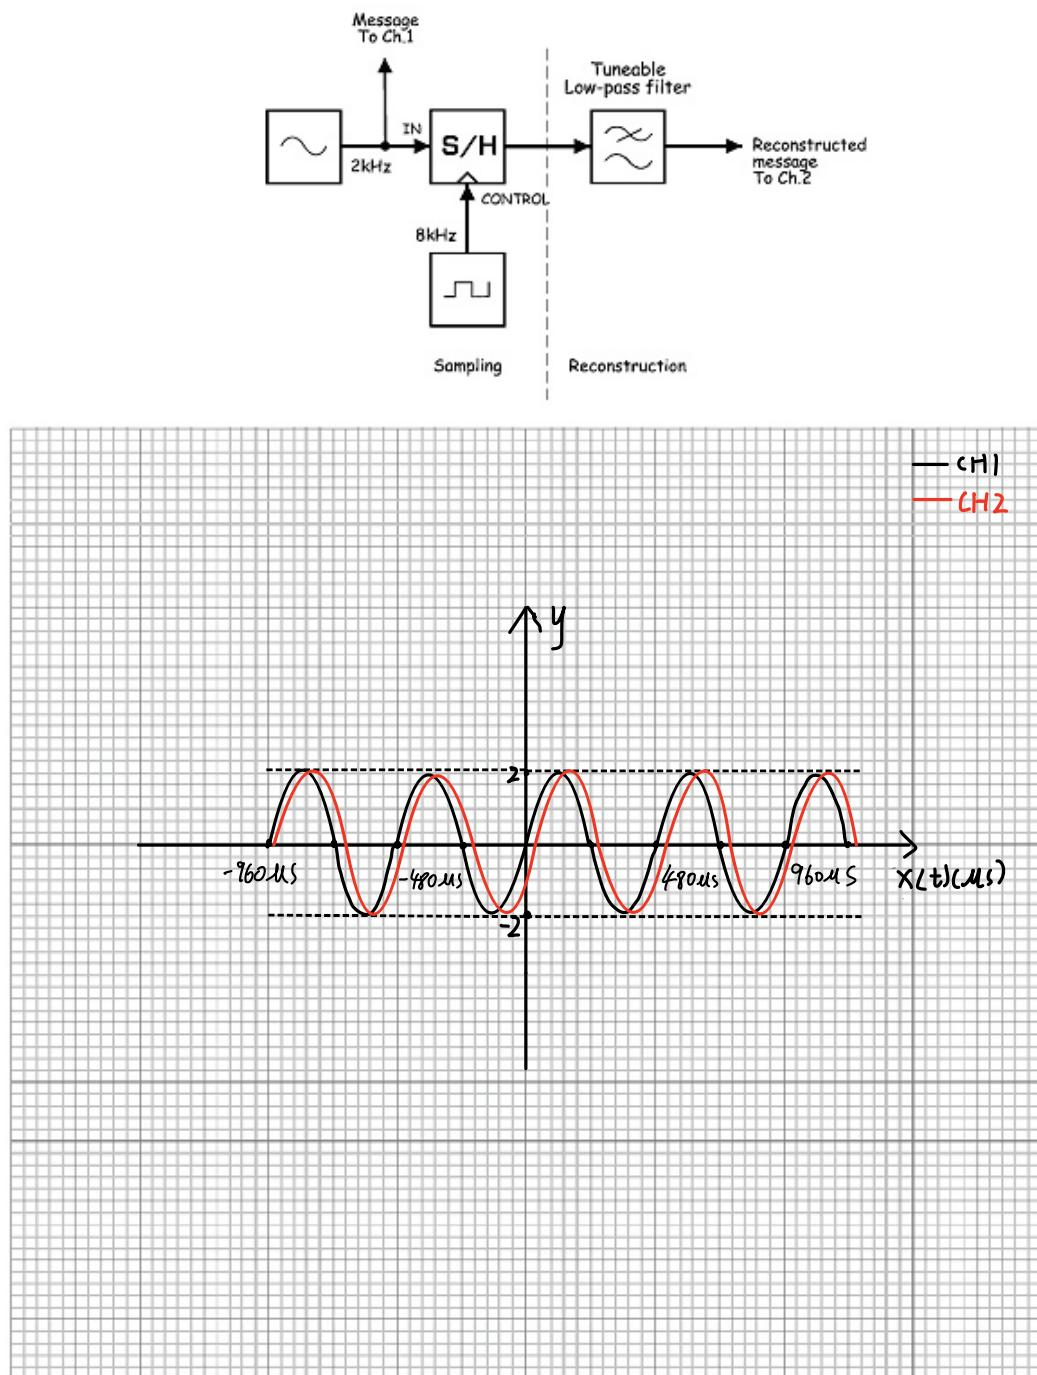
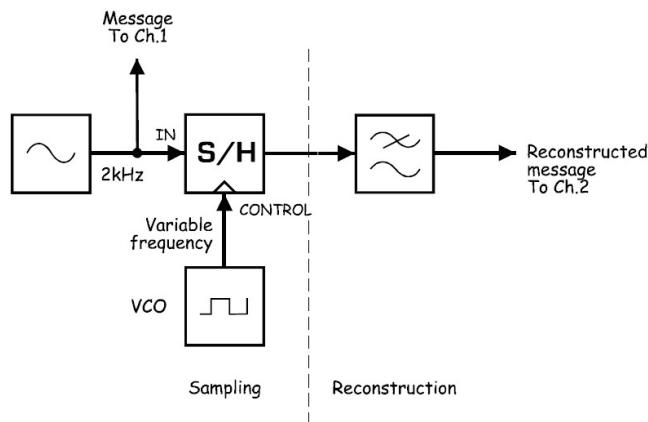

Figure 12: Reconstruction system.
Figure 13: Reconstruction system-Aliasing.
- Locate the low-pass filter and modify the setup as shown in Figure 12 below.
- Draw in the space provided in Figure 12 the signal from Ch-1 and Ch-2 overlapped and to the same scale with different colours. [2 marks]
- Locate the VCO module and modify the circuit in Figure 12 to get the circuit in Figure 13, that is to replace the fixed 8 kHz sampling signal by a variable frequency signal from the VCO.